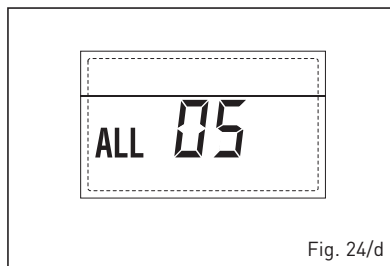

Fig. 24/d
– **FLAME BLOCK ALARM 06 (fig. 24/e)**